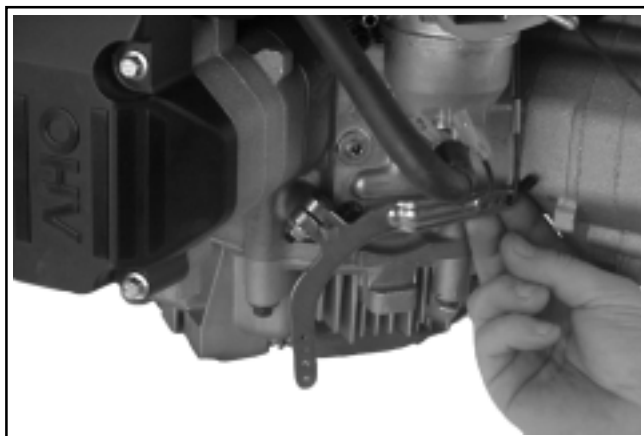

Figure 11-95. Installing Governor Lever onto Governor Shaft.
1. Install the governor lever onto the governor cross shaft. See Figure 11-95.